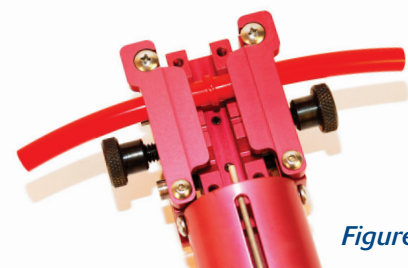

Figure 4
- Refer to Figure 4. Quickly tighten weld clamp knobs to bring belt ends together to form the weld. (Turn right-side knob clockwise to tighten weld clamp) Extreme over-compression of the belt ends together may result in a poor weld.